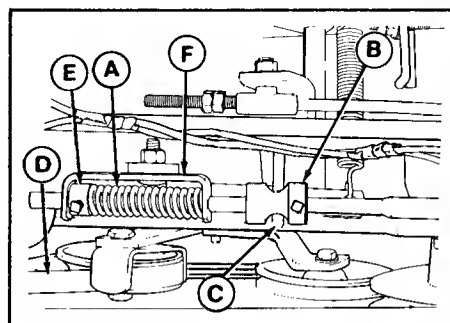

Figure 26. Neutral Adjustment
- b. Check that the brake pin (C, figure 26) is centered in notch of brake detent spool (B). If not, loosen setscrew in brake detent spool and slide detent spool to center brake pin in notch. Tighten the setscrew.